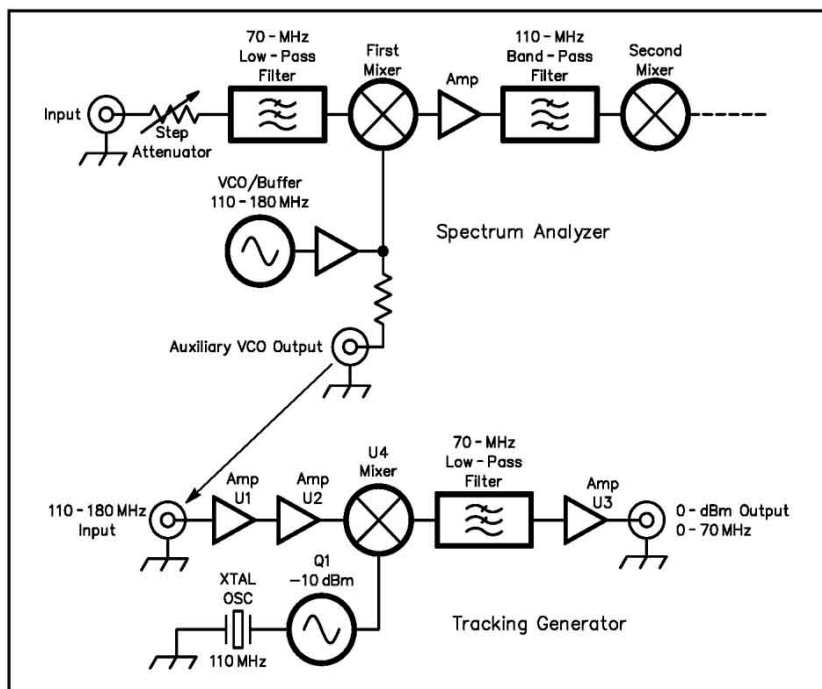

Figure 1—Block diagram showing functions within a spectrum analyzer front end and a tracking generator.
The upper portion of Figure 1 shows a partial block diagram of our spectrum analyzer described last year in *QST*.1 Input signals within a 0- to 70-MHz range are upconverted to a 110-MHz IF, where they are filtered and processed. Swept conversion is obtained from a 110- to 180-MHz voltage-controlled oscillator (VCO.) Our spectrum analyzer VCO circuit includes an auxiliary output for use with a tracking generator—like this one.
A block diagram of our tracking generator is shown at the bottom of Figure 1. A pair of monolithic amplifiers (U1 and U2) boost the VCO sample to a level of +17 dBm, providing local oscillator (LO) injection for a high-level mixer, U4. Q1, a 110-MHz crystal-controlled oscillator provides 0 dBm RF injection for the mixer. The mixer's output is low-pass filtered and amplified by U3 to provide a 0-dBm output.